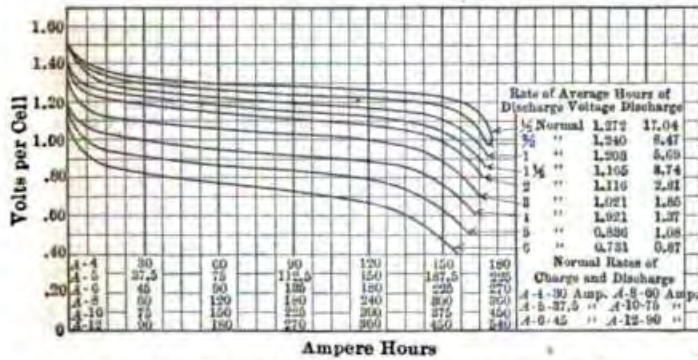

FIG. 57.—Typical discharge curves, type "A" cells.
**219. Characteristic discharging curves.** Characteristic discharge curves for Edison type "A" cells are given in Fig. 57. It will be noted that the ampere-hour capacity of an Edison cell does not suffer very greatly with increasing discharge rates, if the terminal voltage be carried low enough. For practical purposes, however, the last portion of the discharge at high rates would have no value because of its great falling off from the open-circuit voltage.